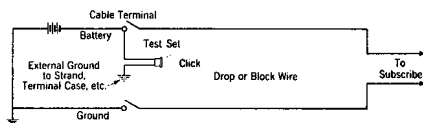

FIGURE 1. Test to Determine Battery Side of Line
- b. Connect one clip of the test set to a suitable ground such as the metal terminal case or suspension strand and touch the other clip to the binding post on which battery normally should be found. See Figure 1. If no battery click is heard in the receiver, touch the other binding post. (If battery click is still not heard, there is other trouble on the line which must be corrected before proceeding with trouble location in the drop or block wire.)